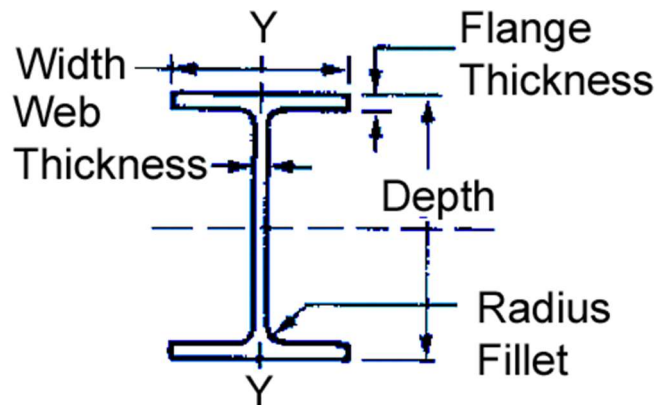

Figure 4 – Beam Cross Section
B. **I Beams or W Style** - usually identified as shown in Figure 4. Another criterion used in describing a beam is its weight/ft length. See table below.
The S (Section Modulus) from Structural Steel Tables and the weight per ft of beam will identify beam dimensions, specifically Depth needed to carry design load, in this example 32000 lbs. per axle. As noted above the heaviness of the beam in lbs/ft is also an important criterion, in that it is a measure of the cross sectional dimensions. For example, Web depth, Web and Flange thickness along with Flange size all contribute to the weight per foot of the beam which Section Modulus is a measure of. The thicker and wider flanges and thicker webs make heavier beams, along with larger Depths, (See Figure 4)